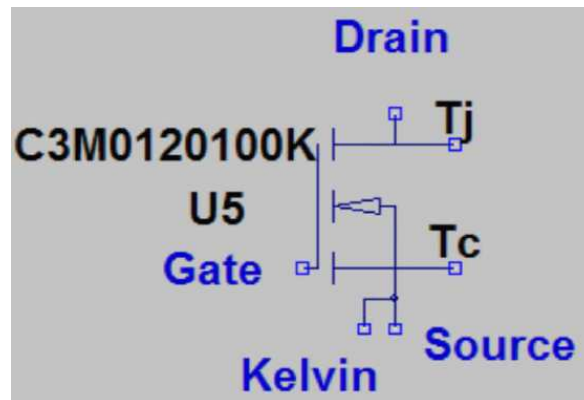

Figure 1: Device symbol in a schematic (reference purpose only).
5. The device symbol will be like the one shown in figure 1. LTspice provides the option for changing the visibility of the labels associated with the terminals.